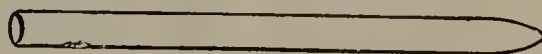

FIG. 32
Close one end of a piece of No. 2 tubing as described above, but leave the end somewhat pointed (1, Fig. 32). Heat the tube on one side at a distance  $\frac{1}{2}$  inch from the end and blow a bulb about  $\frac{1}{2}$  inch in diameter (2). Heat the tube  $\frac{1}{4}$  inch from the bulb, draw it down into a fine tube, and break off the tube, leaving a small hole in the end (3). Place the submarine in a glass of water, and if it floats it is complete.